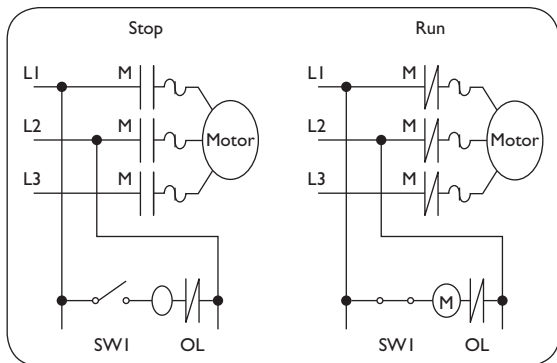
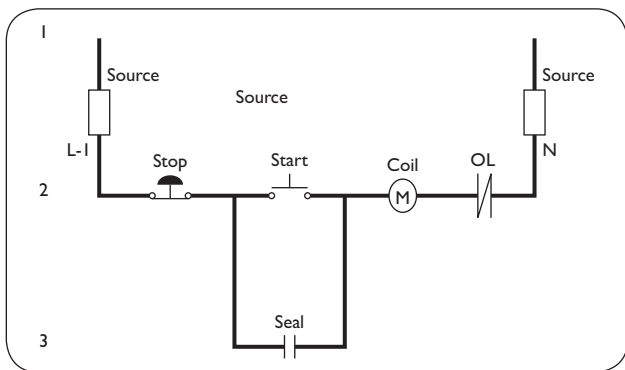

Figure 8-1 Motor Starter Schematic Diagram
Figure 8-2 Motor Starter Control Circuit Diagram
Figure 8-1 provides a diagram of a control circuit for a typical motor starter showing how power comes from the source, listed as L-1, L-2, and L-3. These three wires connect to the main power connections marked on L-1,
L-2, and L-3. When the contacts are open, the power cannot pass to the motor. Figure 8-2 shows only the control circuit portion of the diagram shown in Figure 8-1. Notice that in Figure 8-2 there is a line, representing a wire, connected to the L-1 wire. This wire connects to one side of the SW-1 switch, which is open, so power is not able to flow to the motor starter's magnetic coil (M). Because this coil is not receiving power, it cannot produce a magnetic field. As there is no magnetic field, the main power contacts are held in their open position (off) by a small spring. Notice to the right of the magnetic coil, marked M, there is a symbol (OL). This symbol indicates that there is a normally closed switch in the circuit. This symbol is marked OL for overload protection. Notice that there is a wire connected to the right-hand side of the OL switch which is connected to L-2. Notice also to the right of each of the Ms, the main power contacts, there is a symbol that looks a bit like two fish hooks connected together. These are the symbols used for the current sensors (heater elements). These sensors have main power flowing through them. When the current flow is above the trip point setting, they will cause the OL switch to open the current flow to the magnetic coil. In summary, for the motor starter to close and the motor to run, the following must happen. There must be a voltage at L-1, L-2, and L-3. Switch SW-1 must close and pass power to the M coil. Power must
Notice the round circle with the word “Motor” written in it in Figure 8-1. This is the symbol used to indicate a three-phase motor. That is to say that everything works when there is power flowing, or a voltage and a current flow in the circuit. When the SW-1 switch is open, power cannot flow to the M coil, so it cannot create a magnetic field, so the main power contacts remain open. When there is no magnetic field, the springs in the starter keep the main power contacts open, so power cannot flow from the supply source to the controller, the M contacts, through the overload sensors, and on to the motor.